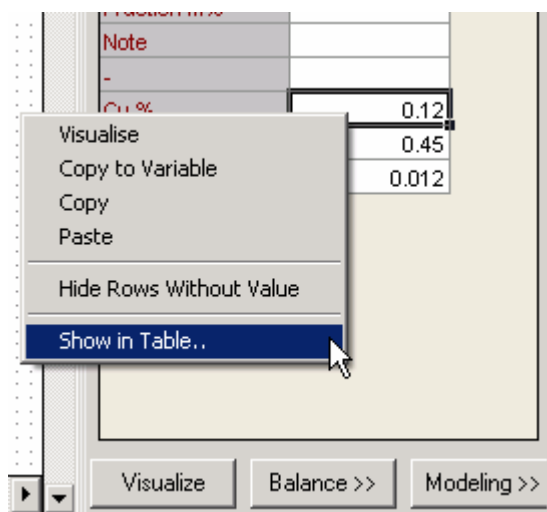

Figure 28. Select the variable and with the right mouse select “Show in Table..”
- Press the right button and select “Show in Table” (Figure 28)